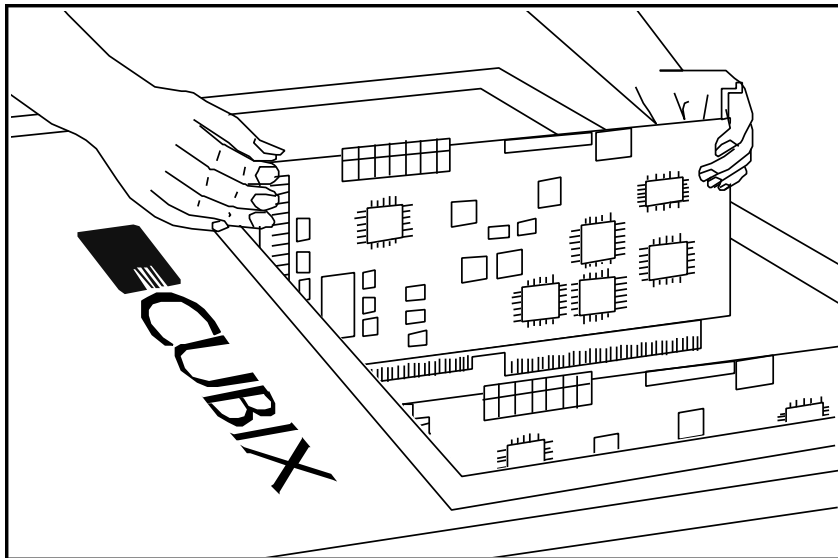

Figure 3 Inserting Server Board into Chassis Group
4. Insert the board into the group slot, ensuring the card interface tabs are aligned with the center of the slot (see Figure 3).